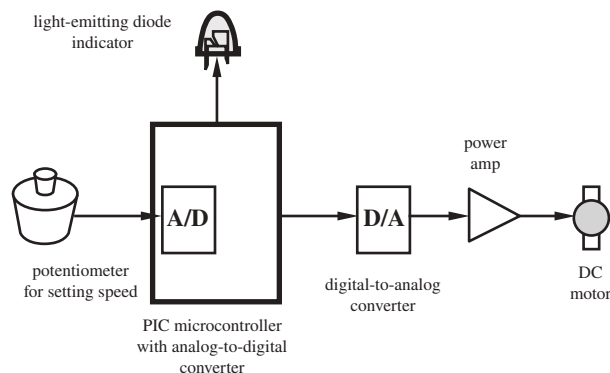
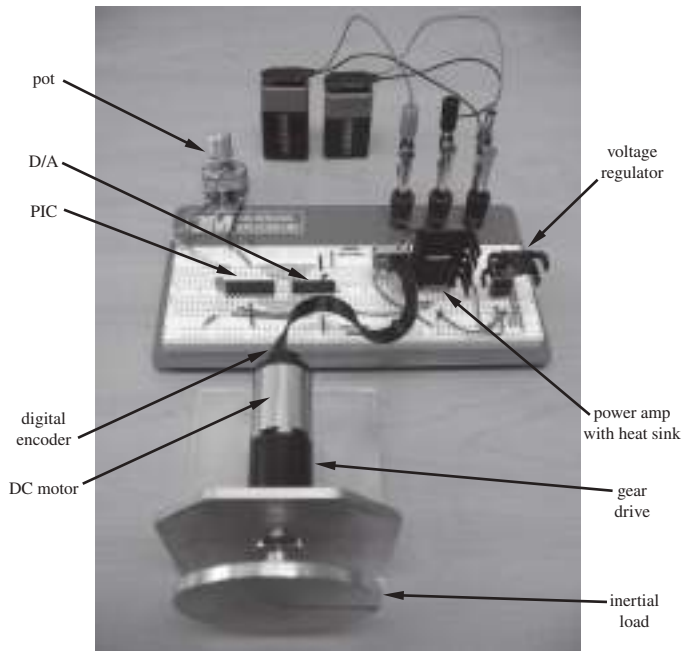

Figure 1.4 Functional diagram of the DC motor speed controller.
Figure 1.5 Photograph of the power-amp speed controller.
This design example deals with controlling the rotational speed of a direct current (DC) permanent magnet motor. Figure 1.4 illustrates the major components and interconnections in the system. The light-emitting diode (LED) provides a visual cue to the user that the microcontroller is running properly. The speed input device is a potentiometer (or pot), which is a variable resistor. The resistance changes as the user turns the knob on top of the pot. The pot can be wired to produce a voltage input. The voltage signal is applied to a microcontroller (basically a small computer on a single integrated circuit) to control a DC motor to rotate at a speed proportional to the voltage. Voltage signals are “analog” but microcontrollers are “digital,” so we need analog-to-digital (A/D) and digital-to-analog (D/A) converters in the system to allow us to communicate between the analog and digital components. Finally, because a motor can require significant current, we need a power amplifier to boost the voltage and source the necessary current. Video Demo 1.6 shows a demonstration of the complete working system shown in Figure 1.5.